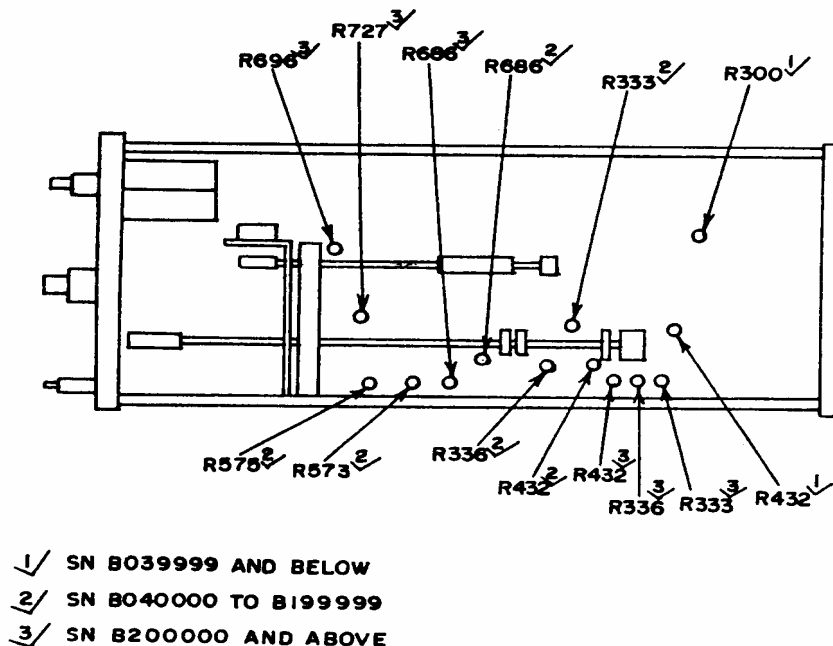

Figure 2. Adjustment locations - right side view (Type 7A13).
Interaction exists between R573 and R575 (fig. 2). If adjustments were made, repeat a (1) through (5) above for best compromise.
(1) Adjust R573 (fig. 2) for a 10 V dc indication on multimeter (R). Adjust for best compromise between + and polarity.
(2) Adjust R575 (fig. 2) for a 1 V dc indication on multimeter (R). Adjust for best compromise between + and - polarity.
(3) Adjust R686 (fig. 2) for a +10 V dc indication on multimeter (R).
(4) Adjust R727 (fig. 2) for a -10 V dc indication on multimeter (R).
(5) Adjust R696 (fig. 2) for a +5 V dc indication on multimeter (R).